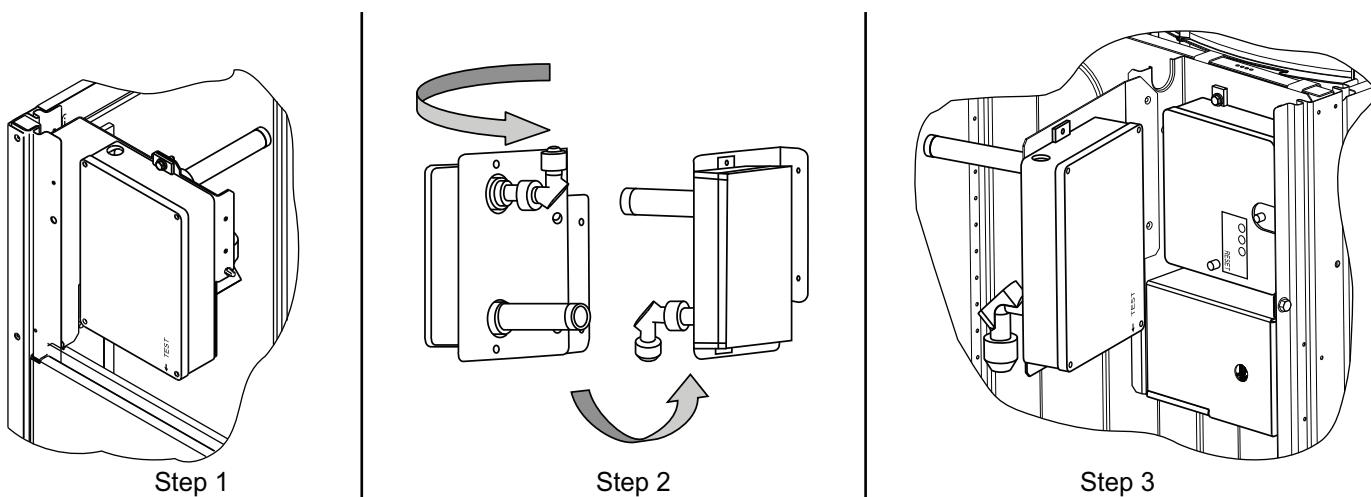

Fig. 71 — Completing Installation of Return Air Smoke Sensor
1. Unscrew the two screws holding the return-air smoke detector assembly. See Fig. 71, Step 1.
3. Turn the assembly 90 degrees and then rotate end to end. Make sure that the elbow fitting is pointing down. See Fig. 71, Step 2.
4. Screw the sensor and detector plate into its operating position using screws from Step 1. See Fig. 71, Step 3.